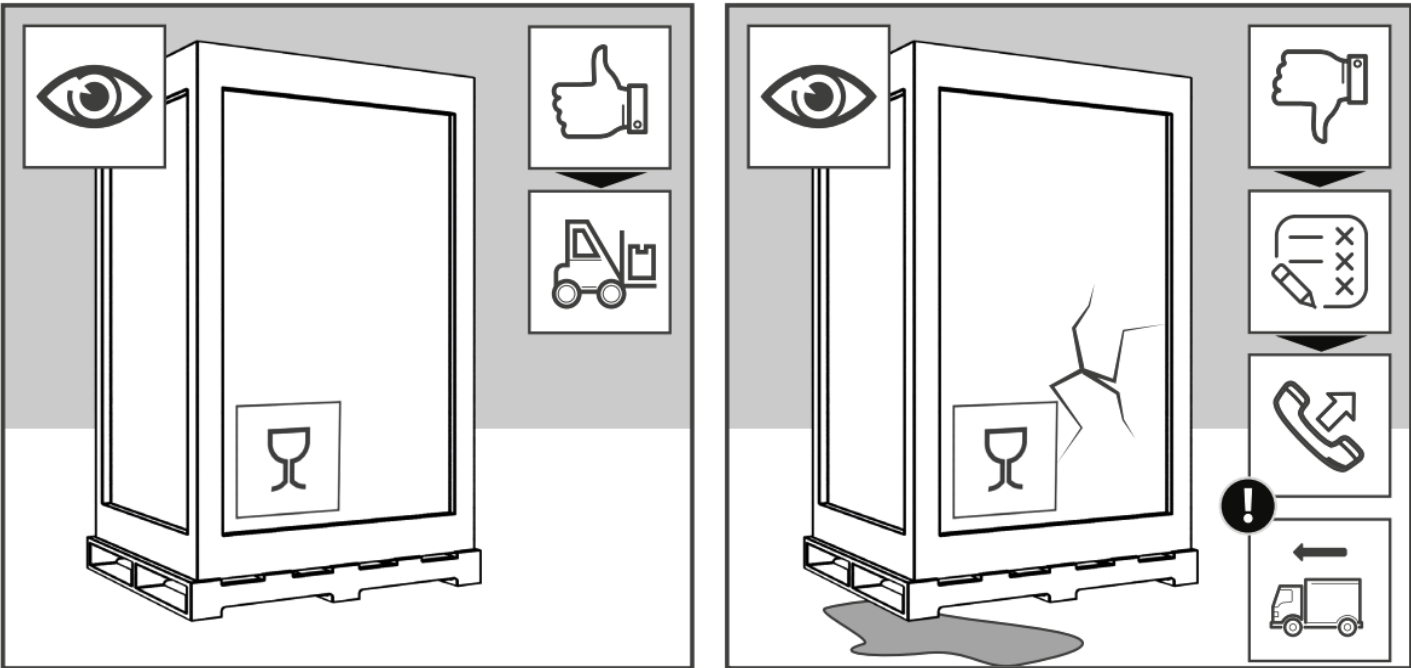

Fig. 11. Checking the integrity of the multideck packaging
- check the integrity of the package (Fig. 11);